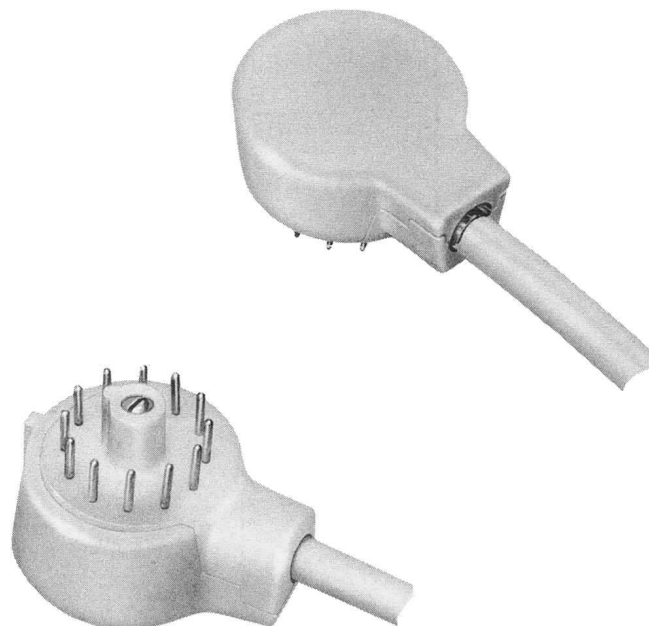
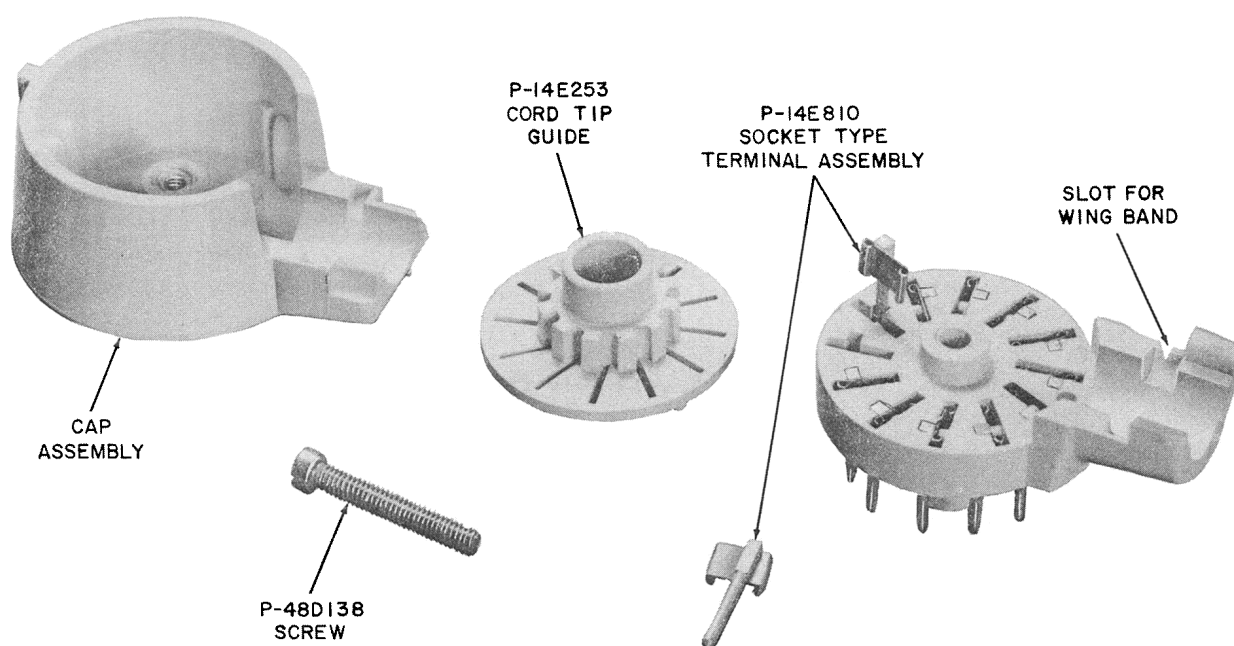

Fig. 4 — 504A Plug
Fig. 5 — 504A Plug Disassembled
2.05 The 504A plug (Fig. 4) is made in three pieces of molded plastic and is held together by one screw and a snap-fit in the neck. Plug block contains contacts and socket type terminals. A cord tip guide (Fig. 5) covers terminals. Guide will fit in only one position. The contact numbers are molded on the guide. Contacts are numbered 1 through 12 and match numbering on 541A jack. Plug is inserted in jack in only one position.
2.06 Slots are provided on plug block and shell (Fig. 5) to hold a wingband or clipped stay hook. The wingband or stay hook seated in the slot prevents mounting cord from slipping out of plug. Included with latest models of the plug is a metal cord stay, designed to be used with cords equipped with a stay hook. The wire stay hook is removed and discarded. The cord stay, inserted in the vacated band hole, serves as a wingband.